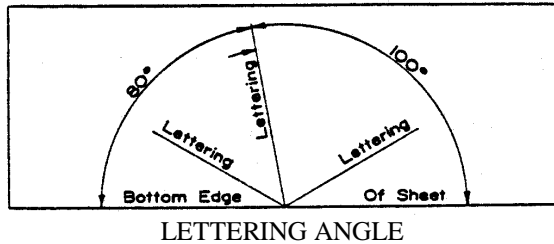

Figure G 713.3
**G 713.3 Lettering:** The standard freehand lettering style is Reinhardt and the standard mechanical lettering is Leroy. The lettering should be viewed from the bottom or the right end of the sheet, as indicated in Figure G 713.3. Each man is required to become proficient in freehand lettering.